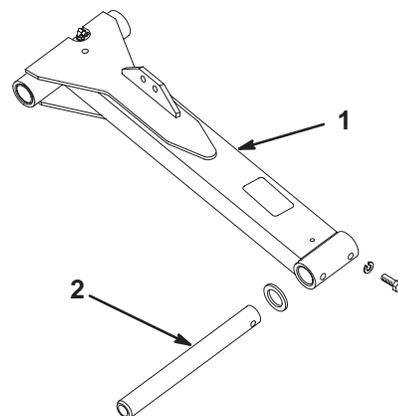

**Figure 5**
2. Position a carrier frame onto each cutting unit, aligning the mounting holes with the mounting links (Fig. 5).
3. Secure each mounting link to the carrier frame with a capscrew (3/8 x 2-1/4 in.), 2 flat washers, and a locknut, as shown in Figure 5. Position a washer on each side of the link when mounting. Torque to 31 ft.-lb. (42 N·m).
- Remove the bearing housing cover (Fig. 5) from the inside end of the right-hand cutting unit. Install the cover and gasket (supplied with the cutting unit) on the outside end. Locate the spider coupling (Fig. 9) shipped in the bearing housing.